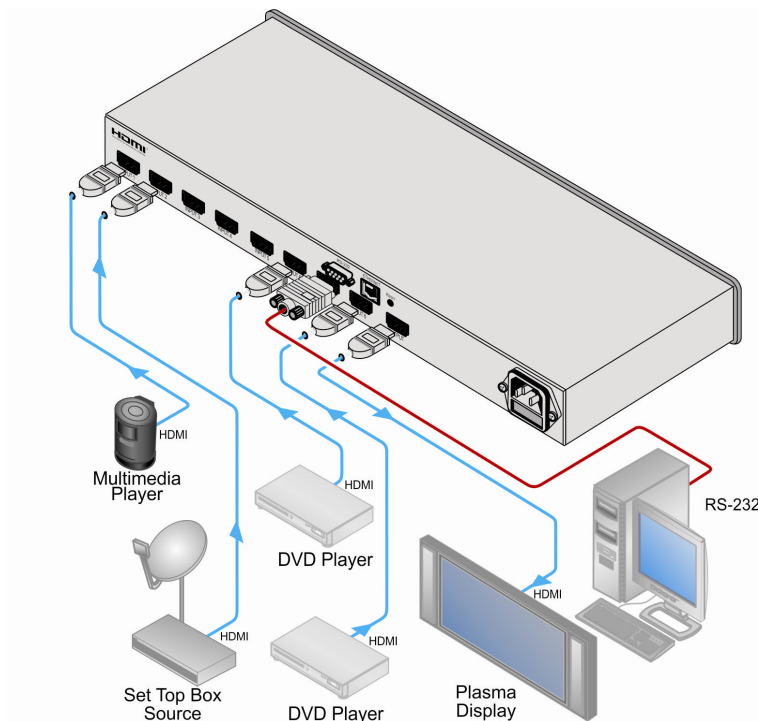

Figure 3: Connecting the VS-81H 8x1 HDMI Switcher
To connect the **VS-81H 8x1 HDMI Switcher** (as illustrated in Figure 3), do the following:
5. Connect the power connector to the mains electricity (not shown in Figure 3).